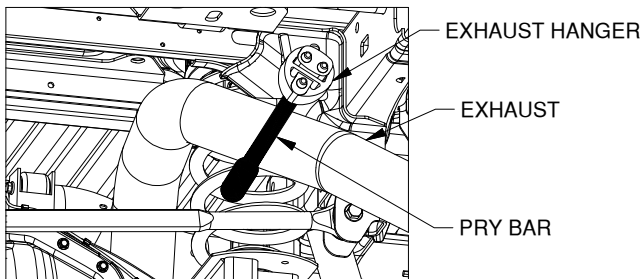

FIGURE A5: looking under truck bed towards cab.
7. **Disconnect the exhaust hanger: (optional, see secure hitch section step 3)** Locate the exhaust hanger in the rear passenger portion of the truck, see figure A5. Disconnect the exhaust from the hanger to provide improved mounting access to the center section. It is recommended that a pry bar be used to aid in disconnecting the exhaust hanger, as shown in figure A5.